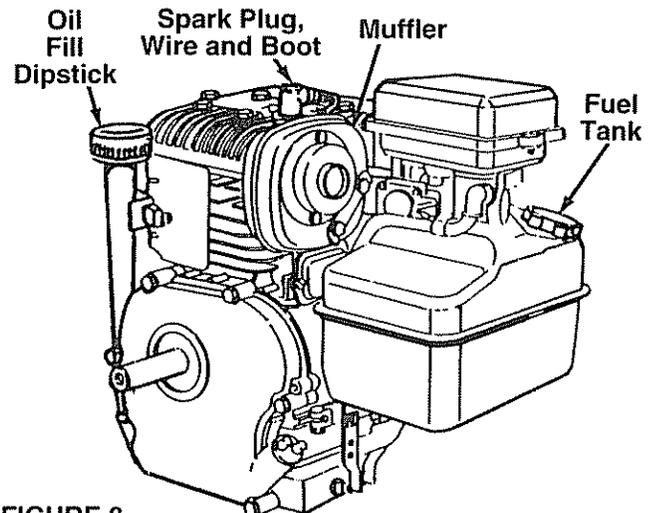

FIGURE 8.
- Remove fuel cap and fill fuel tank. See figure 8. Use fresh, clean, unleaded automotive gasoline. Capacity is 3 quarts. Replace fuel cap.
- Attach spark plug wire and rubber boot to spark plug if necessary. See figure 8.